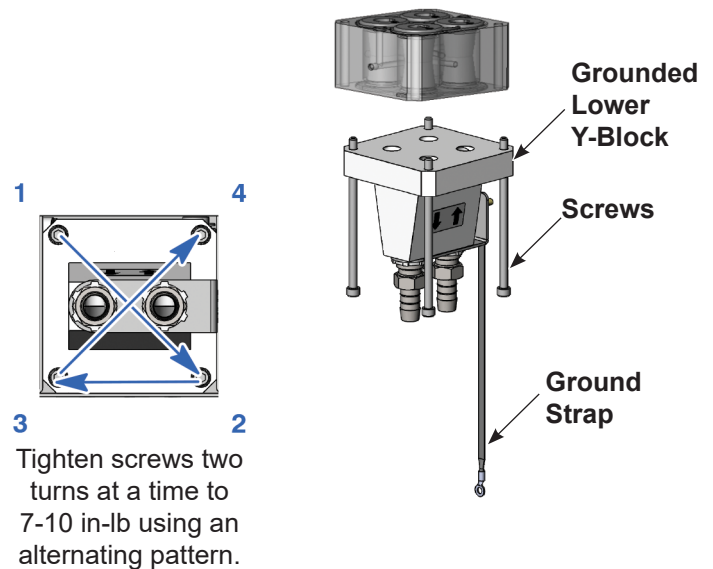

Figure 4 Install New Grounded Lower Y-Block
1. See Figure 4. Install grounded lower Y-block using four screws. Tighten screws two turns at a time to 7-10 in-lb using an alternating pattern.
4. See Figure 4. Attach ground strap from lower Y block to pump back plate.